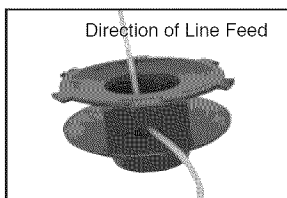

Figure 25 - Inserting line through eyelet
4. Insert 1 inch of line through small hole at the base of spool (See Figure 25).